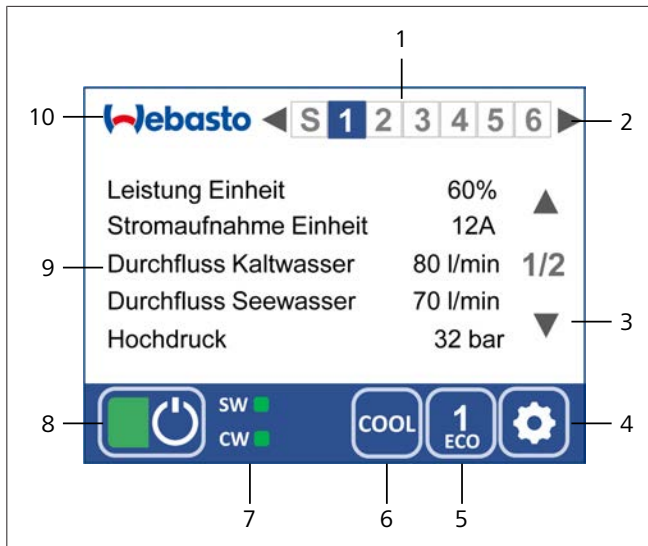

Fig. 16 Home screen
Changing the display is carried out with the arrow keys in the upper status line (Fig. 16, item 2).